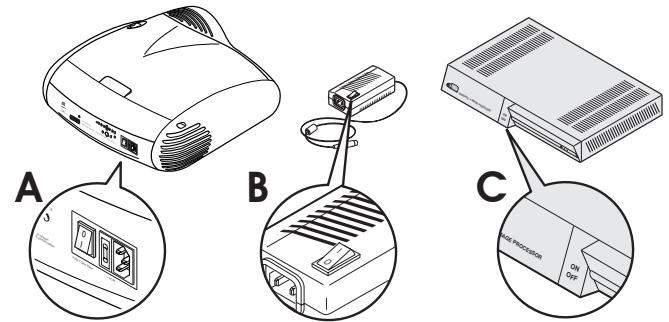

Fig.13
1) Set the Projector power switch on the rear panel onto "I" (ON) (Fig.13 phase A).
2) Set the DigiOptic™ Image Processor switch on the external power supply unit to "I" (ON) (Fig. 13 phase B). In this phase make sure the DigiOptic Image Processor (Fig. 13 phase C) is in the OFF position: in this condition the indicator LEDs on the front panel of the DigiOptic Image Processor should not be lit.
3) Press the central button on the front of the DigiOptic™ Image Processor onto ON (Fig.13 phase C).